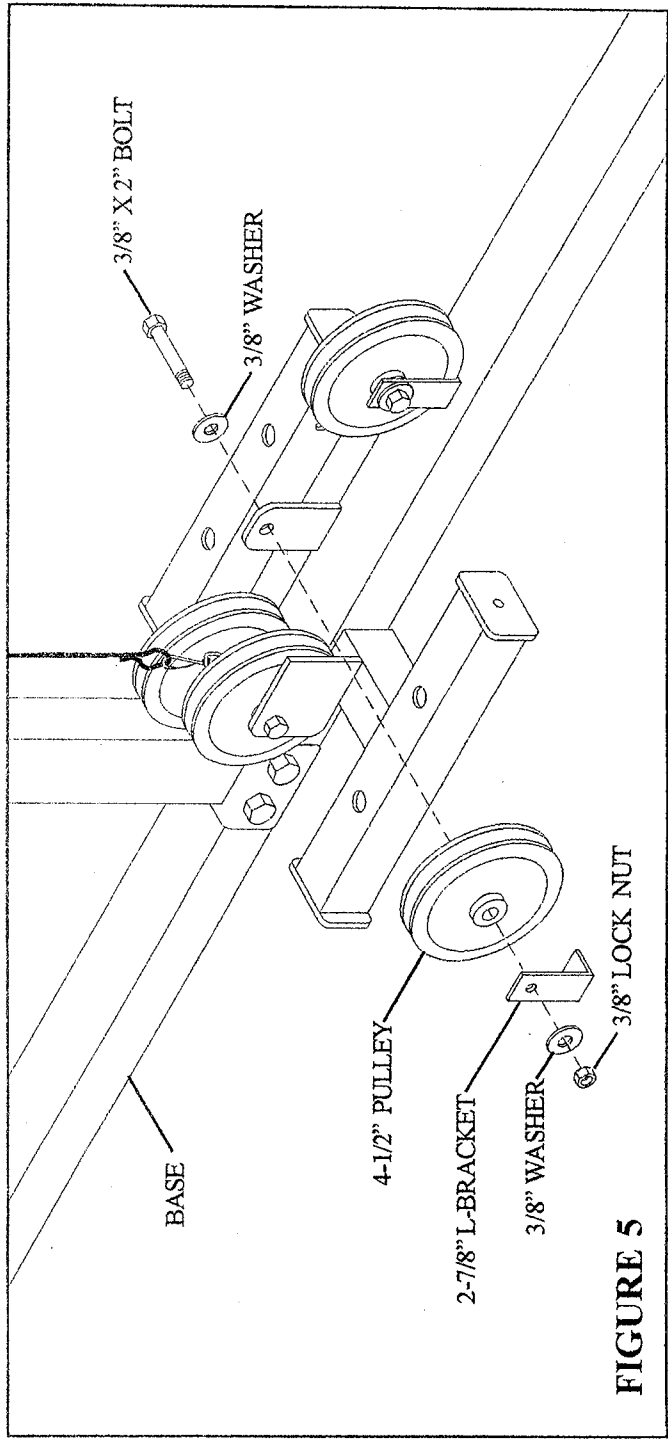

FIGURE 5
- Remove one 3/8 X 2" BOLT, two 3/8" WASHERS, one 2-7/8" L-BRACKET, one 4-1/2" PULLEY, and one 3/8" LOCK NUT from the upper flat on the BASE as shown in FIGURE 5.